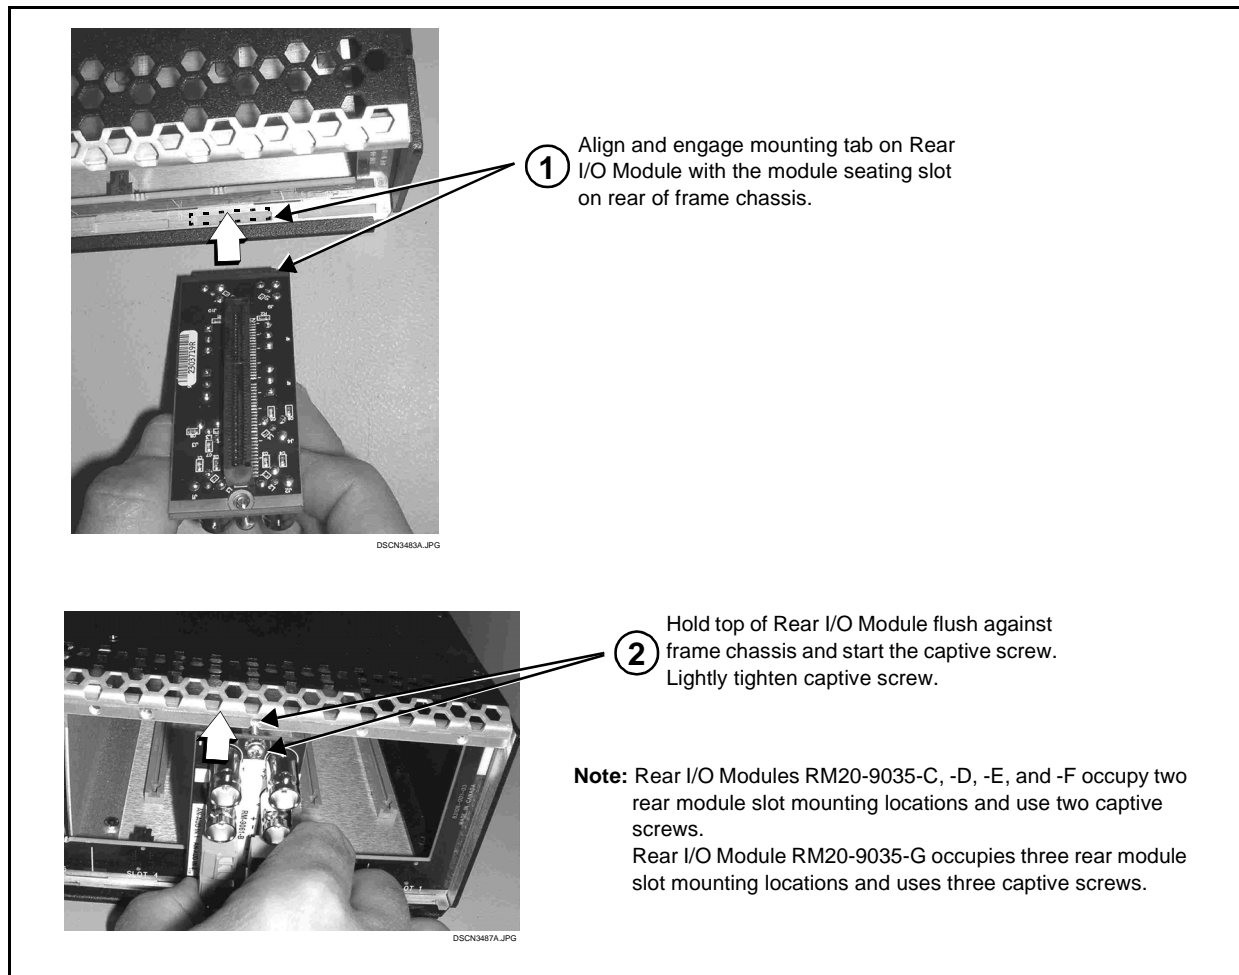

Figure 2-2 Rear I/O Module Installation
2. In the mounting area corresponding to the slot location, install Rear I/O Module as shown in Figure 2-2.